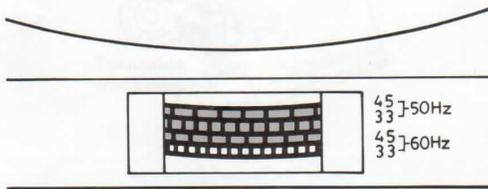

Fig. 12
- Adjust the speed accurately using the pitch (PITCH) control and stroboscope. Turn the pitch control from side to side until the stroboscope pattern seems to stop (Fig. 12).